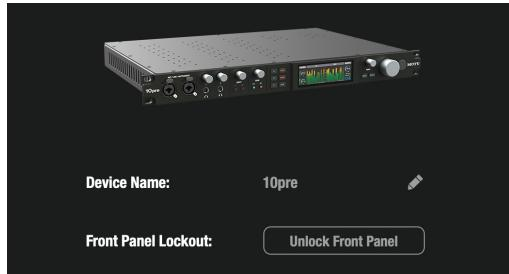

Figure 5-12: Disabling Front Panel Lockout mode in the Device tab in CueMix Pro.
- In CueMix Pro, go to the Device tab and click the *Unlock Front Panel* button (Figure 5-12).